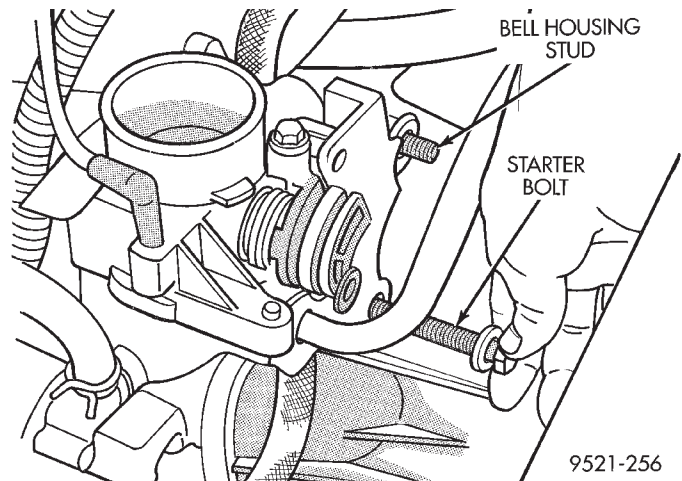
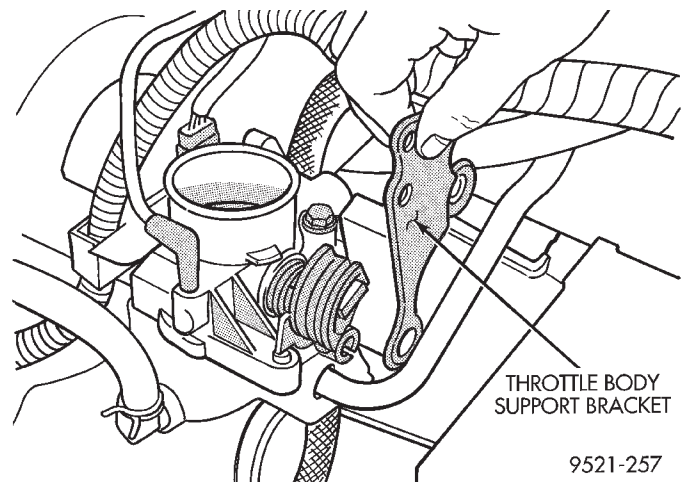

Fig. 24 Upper Starter Bolt and Bellhousing Stud Nut
Fig. 25 Throttle Body Support Bracket
(9) Remove upper starter bolt and upper bellhousing stud nut at bellhousing (Fig. 24). Remove throttle body support bracket (Fig. 25).